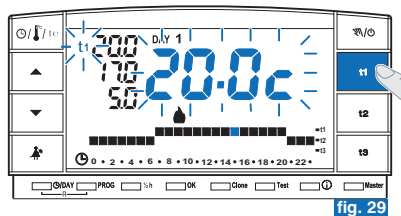

fig. 29
- Press the set temperature key to be limited (**t1** or **t2**). The selected symbol (**t1** or **t2**) and the central digits with corresponding temperature will blink (example in fig. 29).